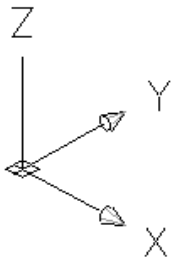

Figure Step 3
Step 3 Set the current view to SE Isometric and ensure the UCS Icon is enabled (On) and the Origin is enabled as shown in Module 1 page 1-4. See Figure Step 3.